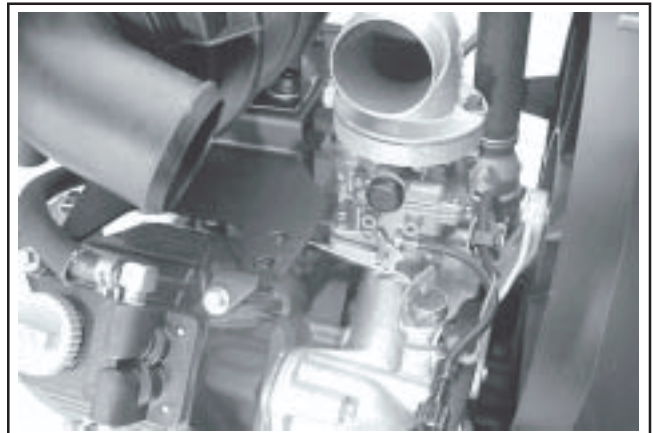

Figure 5-4. Carburetor Mounting Detail.
2. Disconnect the fuel line from the carburetor. See Figure 5-4.
8. Once proper float height is obtained, carefully lower the carburetor upper body onto the carburetor lower body, connecting the choke linkage. Install the four screws. Torque screws to **1.7 N·m (15 in. lb.)**. See Figure 5-4.